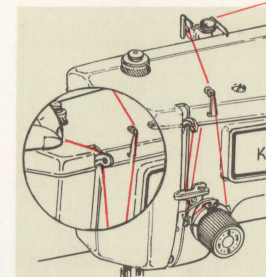

Fig 4
3. Push the speed control plug onto three-prong connector. Plug machine cord into any 110—120 volt wall outlet. Turn on power by pushing light and power switch. (See Fig. 4)
4. Continue threading through the front thread guide, hook thread into take up lever and down through path shown in Fig. 4 and 5.